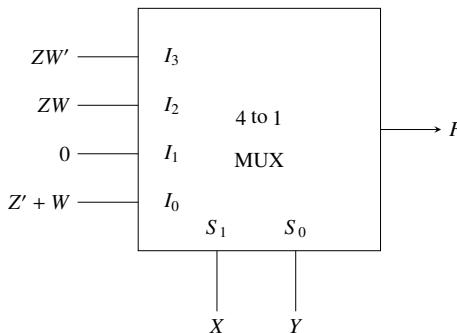

Fig. 4.15
26. A 4×1 multiplexer with two selector lines is used to realize a Boolean function F having four Boolean variables X, Y, Z , and W as shown below in Fig. 4.15. S_0 and S_1 denote the least significant bit (LSB) and most significant bit (MSB) of the selector lines of the multiplexer, respectively. I_0, I_1, I_2, I_3 are the input lines of the multiplexer. The canonical sum of product representation of F is (GATE IN 2021)